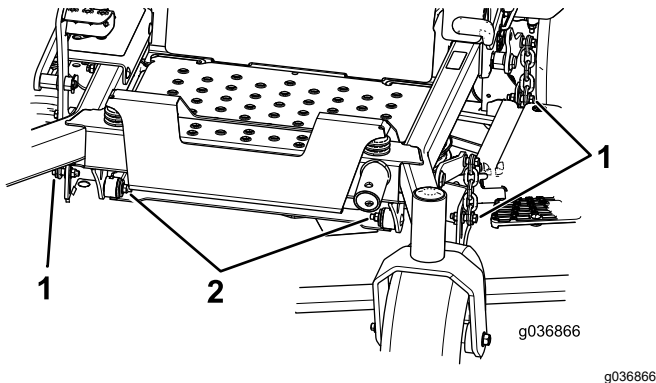

Figure 100
7. Remove and retain the bolts and nuts on both sides of the machine (Figure 100).